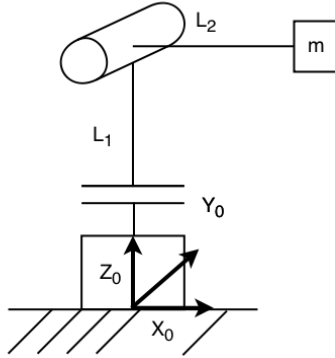

Figure 2:
Figure 2 shows a robot with two degrees of freedom. This is a simplification of the robot in exercise 2. Assume that the only mass is a point mass of  $m$  at the tool.
- (7.5 %) Find the Lagrangian  $\mathcal{L}$  of the robotic system in Figure 2.